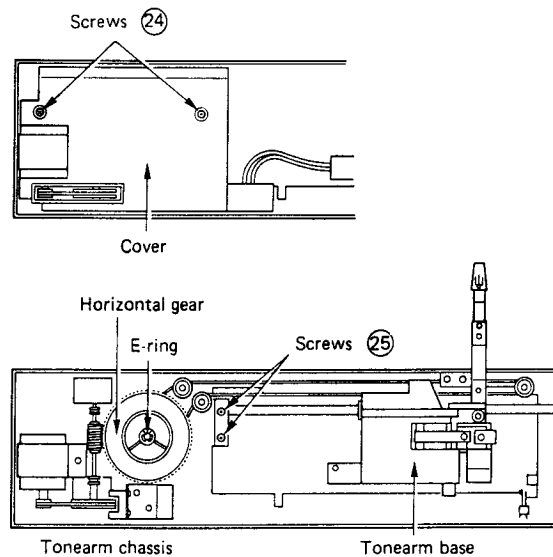

Fig. 19
- 2) As shown in Fig. 19, remove the two screws (24), and then remove the cover.
- 3) As shown in Fig. 19, remove the two screws (25), and then remove the guide shaft.